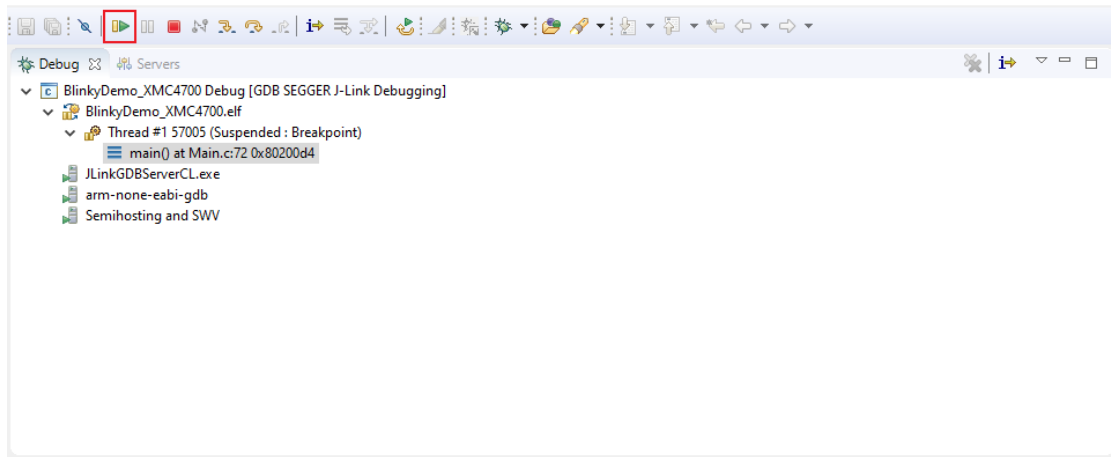

Figure 17: *DAVE IDE* Debug view
8. To start the execution of the application press **F8** or click on the *Resume* icon as seen in Figure 17.